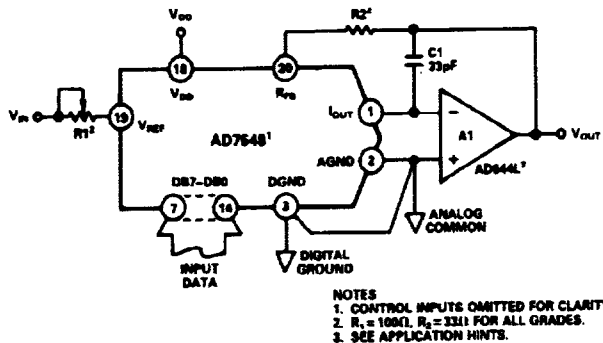
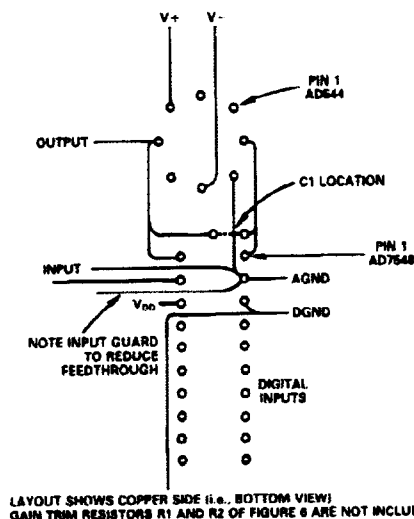

Figure 6. Unipolar Binary Operation
Figure 9. Suggested Layout for AD7548 and Op Amp
The contents of the DAC register can be overridden by pulling  $DF/\overline{DOR}$  (pin 5) LOW. The  $CTRL$  (pin 6) input then determines whether the DAC register data is overridden by all 0s ( $CTRL$  LOW) or all 1s ( $CTRL$  HIGH). This feature allows the user to calibrate the AD7548 in circuits such as Figure 6 without calling on the microprocessor to load calibration data.
Figure 6 shows the analog circuit connections required for unipolar binary operation. With a dc input voltage or current (positive or negative polarity) applied at pin 19, the circuit is a unipolar D/A converter. With an ac input voltage the circuit provides 2-quadrant multiplication (digitally controlled attenuation).
Table I shows the code relationship for the circuit of Figure 6.
Table I. Unipolar Binary Code Table for Circuit of Figure 6
**Output Offset:** CMOS D/A converters in circuits such as Figures 6 and 7 exhibit a code dependent output resistance which in turn cause a code dependent amplifier noise gain. The effect is a code dependent differential nonlinearity term at the amplifier output which, depends on  $V_{OS}$  where  $V_{OS}$  is the amplifier input offset voltage. To maintain monotonic operation it is recommended that  $V_{OS}$  be no greater than  $(25 \times 10^{-6})(V_{REF})$  over the temperature range of operation. Suitable op amps are AD517L and AD544L. The AD517L is best suited for fixed reference applications with low bandwidth requirements: it has extremely low offset (50 $\mu$ V) and in most applications will not require an offset trim. The AD544L has a much wider bandwidth and higher slew rate and is recommended for multiplying and other applications requiring fast settling. An offset trim on the AD544L may be necessary in some circuits.
**Feedthrough:** The dynamic performance of the AD7548 will depend upon the gain and phase stability of the output amplifier, together with the optimum choice of PC board layout and decoupling components. A suggested printed circuit layout for Figure 6 is shown in Figure 9 which minimizes feedthrough from  $V_{REF}$  to the output in multiplying applications.